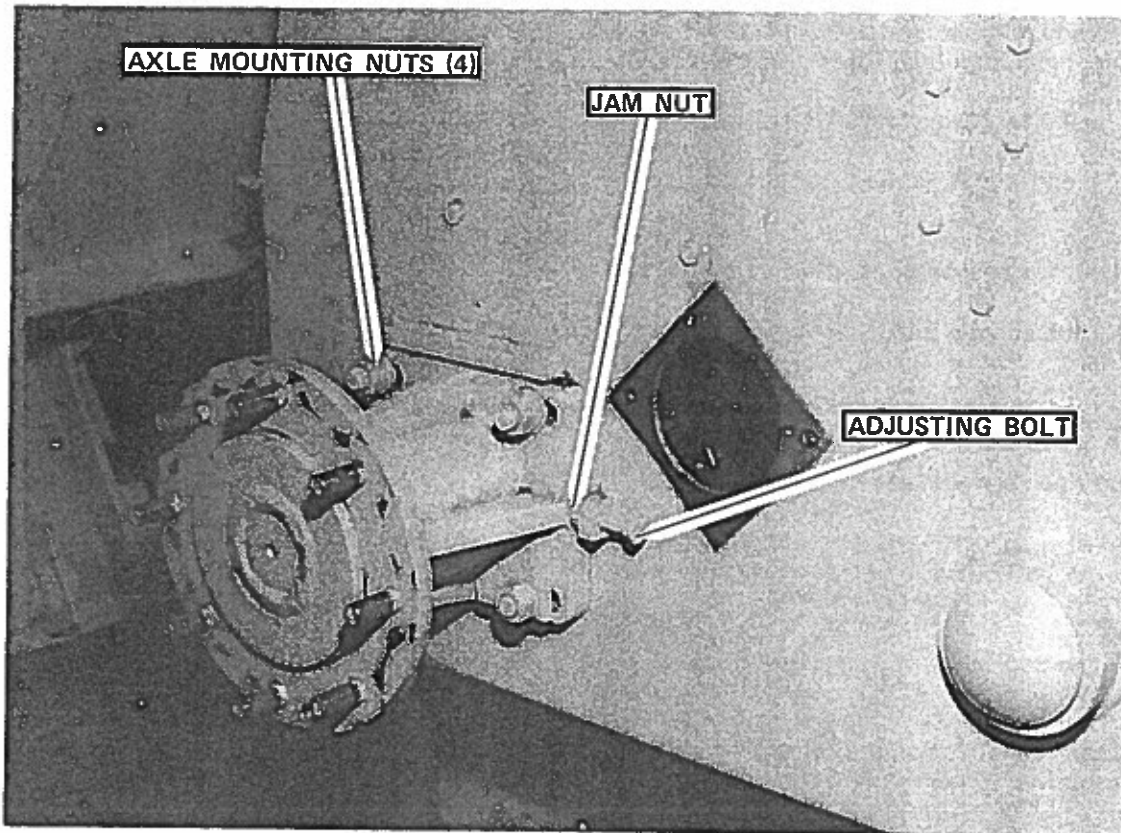

FIGURE 55
1. Loosen the four axle mounting nuts, see FIGURE 55, and the adjusting bolt jam nut.